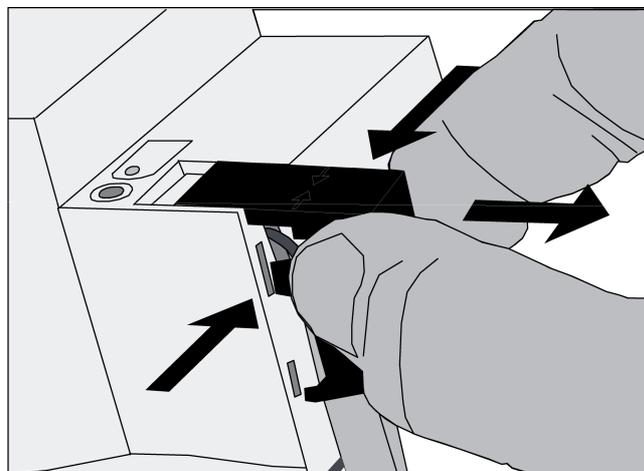

Figure 5: Removing the cover
- Press the cover to the side and pull it off (figure 5).